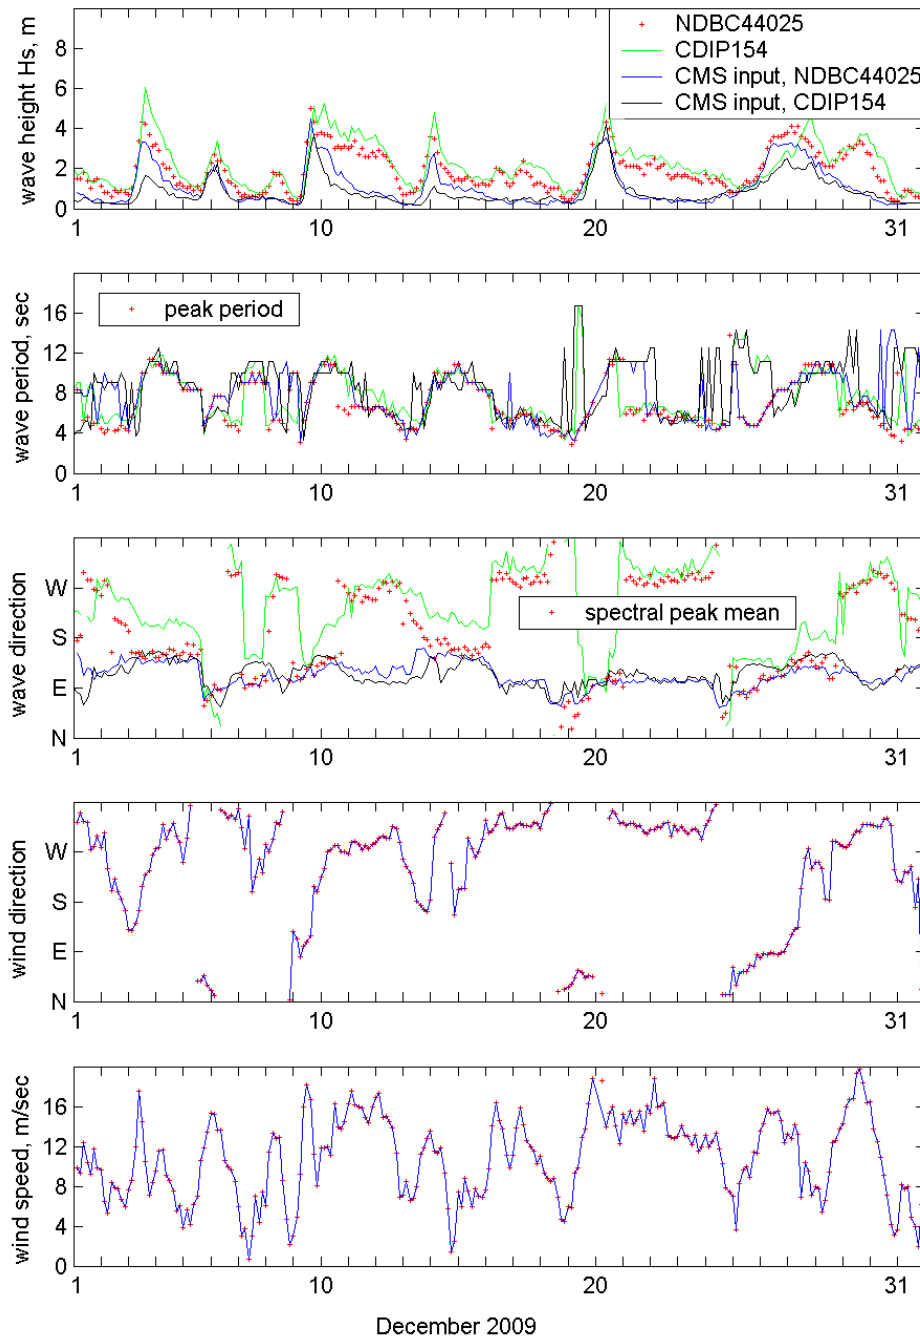

Figure 8.2.6 Run fig4sets.m.
- **fig4sets.m** (or **fig4sets.exe** in DOS) – this code is similar to **fig1set.m** and **fig2sets.m** except it is capable of reading and plotting the time series of wind wave data from three or four WIS short format files. Run **fig4sets.m** following similar steps similar as run **fig1set.m** or **fig2sets.m** – see Fig 8.2.6 to plot NDBC 44025, CDIP 154, and these two sets of data transformed to the CMS-Wave grid offshore boundary (2009-ndbc.dat and 2009-sp154.dat).